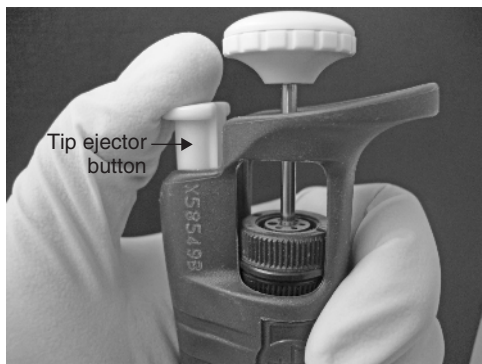

Figure 1.10 Ejecting tip using tip ejector button
- Step 6:** Eject the tip into waste using the ejector behind the plunger (Figure 1.10).